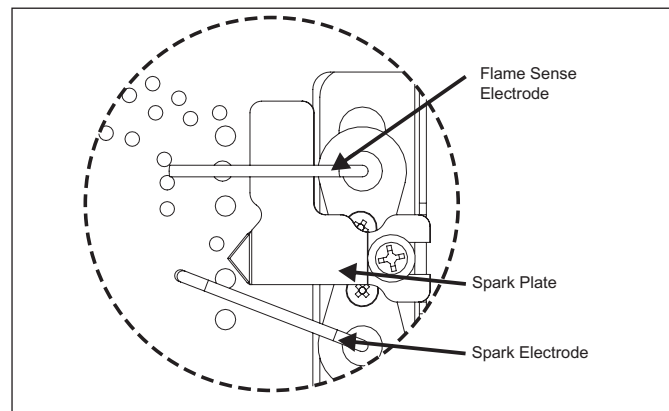

FIG 35
6. Replace in reverse order, checking correct location of spark/sense electrodes. Refer FIG 35. Spark gap between electrode and spark plate is 6 - 8 mm. Flame sense electrode MUST be in constant flame. Check for gas tightness. For log placement, refer to page 15 of this manual.